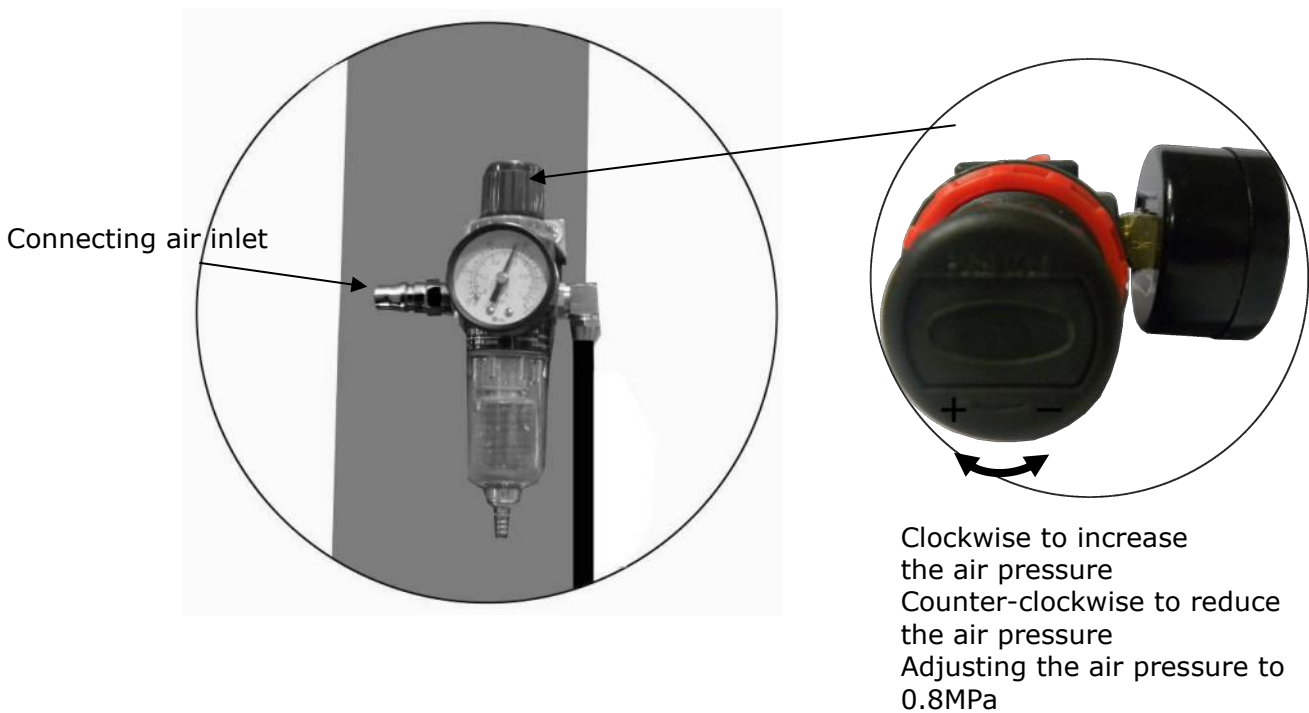

Fig. 34
6. Connecting air inlet (Air supply pressure 5-8kg/cm²), adjusting the air pressure of Oil-water separator to 0.8MPa (**See Fig. 34**).